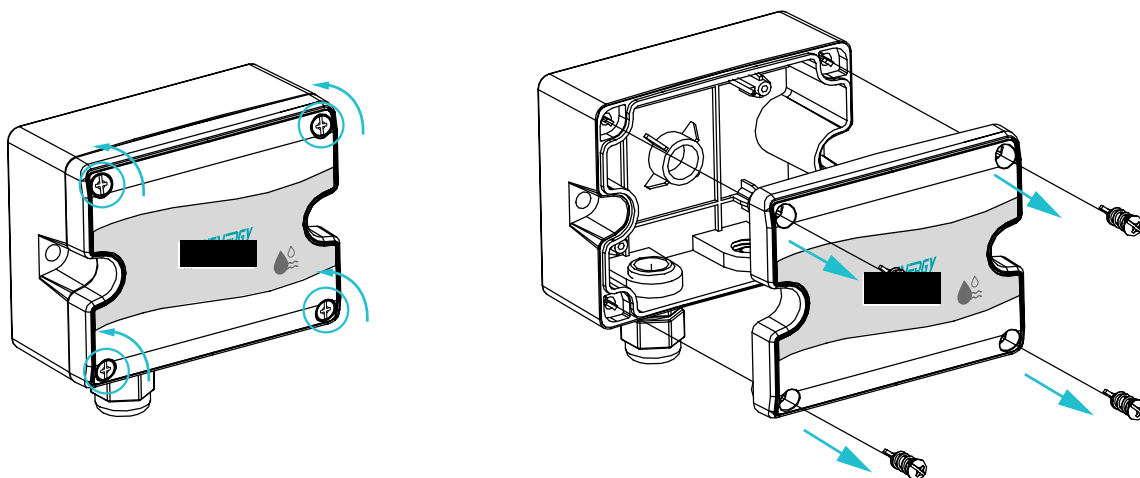

Figure 2 AcuHUM DM Removing Cover
**NOTE:** Use caution to avoid over-rotating the screws, as this may lead to damages to the enclosure. Refer to Figure 2 for details.